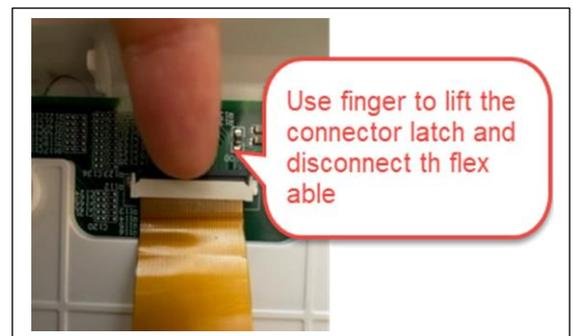

Figure 7.20
7. Disconnect the LCD flex cable from the ZIF connector, See Figure 7.20.